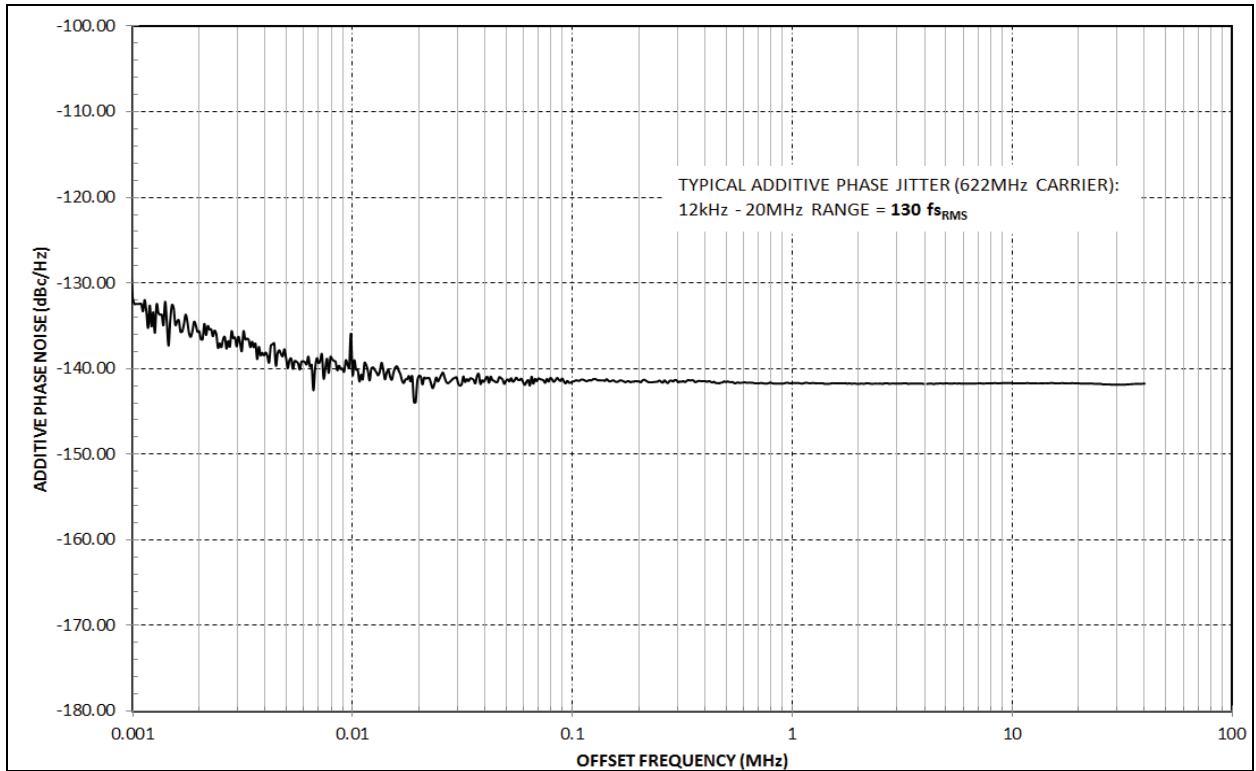

FIGURE 5-1: Additive Noise Plot.
- Corrected parameters for Figure 5-1.